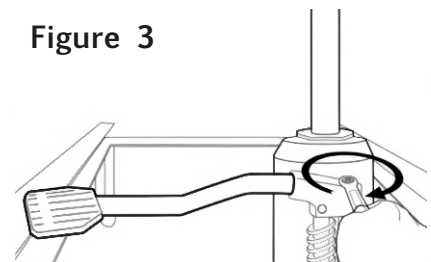

Figure 3
3. Screw in the M8 Bolt (7) as shown in Figure 3. Ensure it is tighten enough.